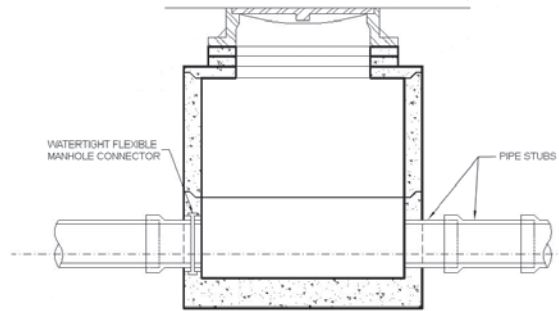

Figure 9-4: Two points of flexibility should be provided within 36 inches of a structure.
2. one short length and one flexible manhole connector (see Figure 9-4).
If a manhole connector is utilized, it is important that the pipe is centered in the connector and the tightening clamp torqued per the manufacturers' instructions in order to remain a flexible and watertight connector (see Figure 9-4). It is equally important that no mortar be placed between the pipe and the wall of the concrete structure. Both the use of mortar in this area and not centering the pipe would decrease the effectiveness of the connector to compensate for shear caused by settlement or ground movement.